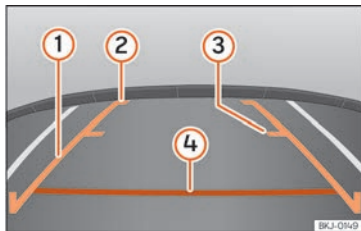

Fig. 180 Display on the Infotainment system screen.: guide lines.
- Vehicle load modifies the representation of the guide lines »» Fig. 180. The width represented by the lines decreases with vehicle load. Pay special attention to the surroundings when the inside of the vehicle of the luggage compartment are loaded.
Meaning of the orientation lines »» Fig. 180